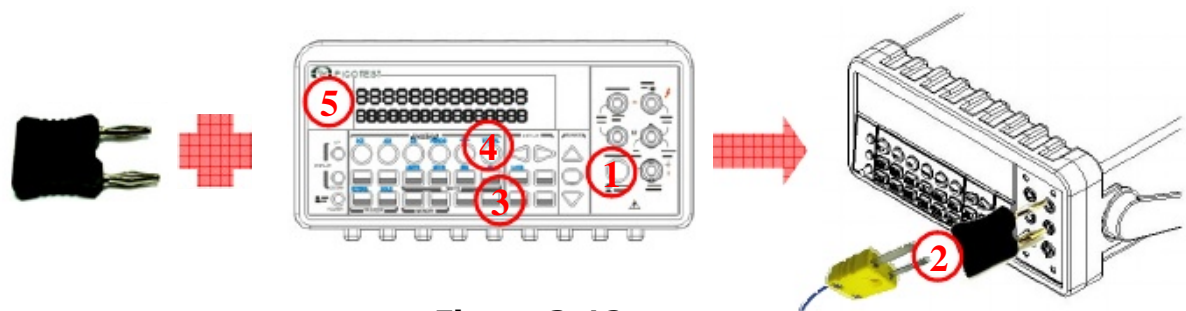

Figure 3-12
- ① Use terminals switch to select terminals on the front panel.
- ② To measure thermocouple, you must use a thermocouple adapter and a sensor, (K type for example), with the low thermal patch lead as shown in **Figure 3-12**.
- ③ Configure the thermocouple type and unit using CONFIG + SHIFT + TEMP, such as K TYPE and °C. When ready, press ENTER button.
- ④ Press SHIFT + TEMP buttons.
- ⑤ Take the reading on the display.